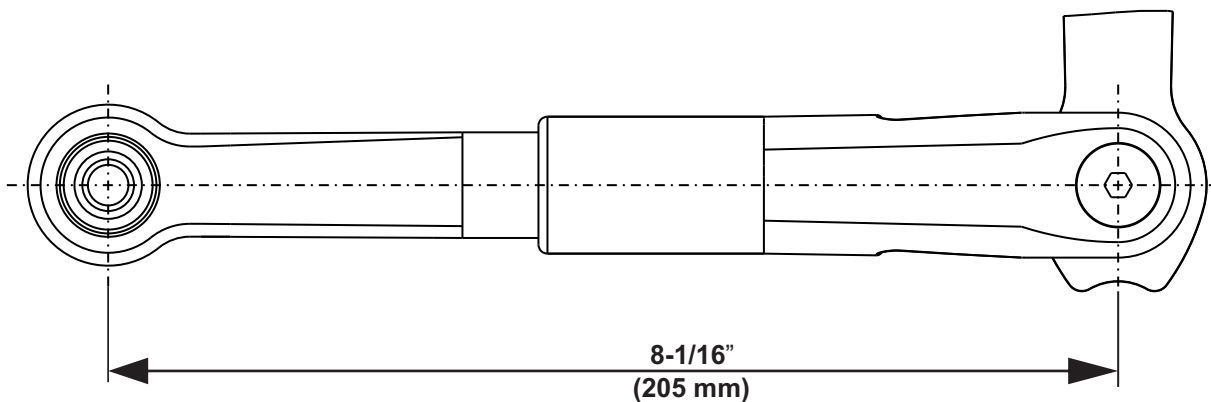

Figure 24
3. Refer to Figure 24, and **ADJUST** door arm length to 8 1/16" (205 mm).